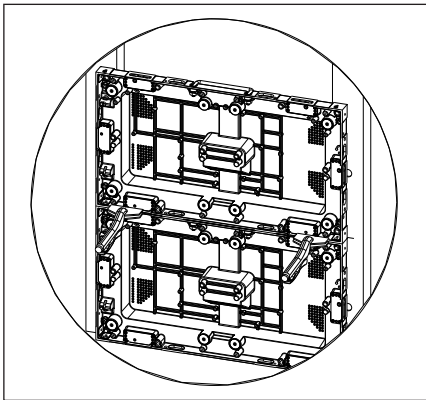

Figure 9: Clamp Panels Together
- 4. Clamp the panels together. Refer to **Figure 9**.